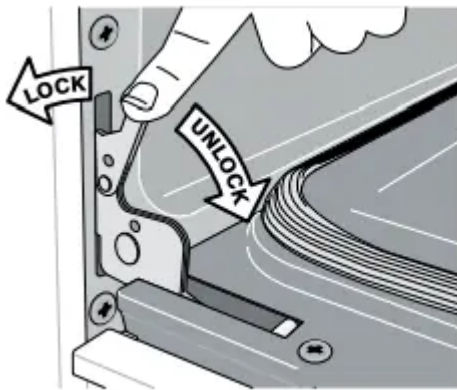

Fig. 2
2. Pull the door hinge locks on both left and right door hinges down from the oven frame completely towards the oven door to unlock (See Fig. 2). A tool such as a small flat-blade screwdriver may be required.